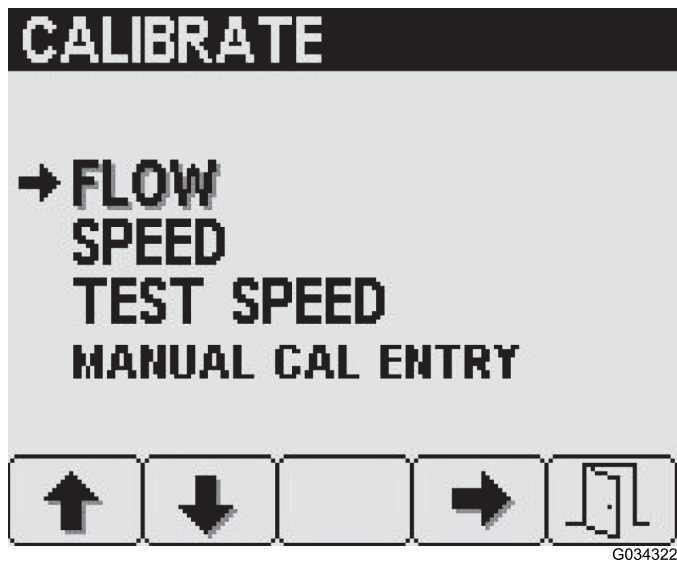

Figure 21
2. To access the Flow screen, press button 4 on the Calibrate screen (Figure 21) to select Flow.
2. To access the Speed screen, press button 2 on the Calibrate screen until you reach Speed, then press button 4 (Figure 21) to select Speed.